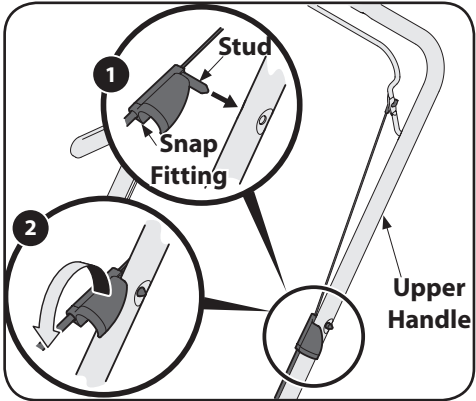

Figure 2-3
- 1. Press the stud found inside the snap fitting into the hole found on the left side of the upper handle, as shown in Figure 2-3.